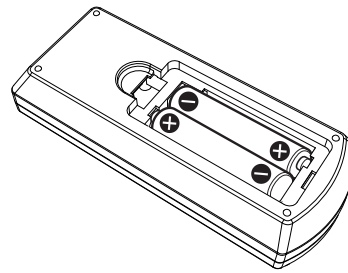

Fig.2
- 2) Insert the batteries and close the cover (insert the  $\ominus$  side first). (Fig. 2)